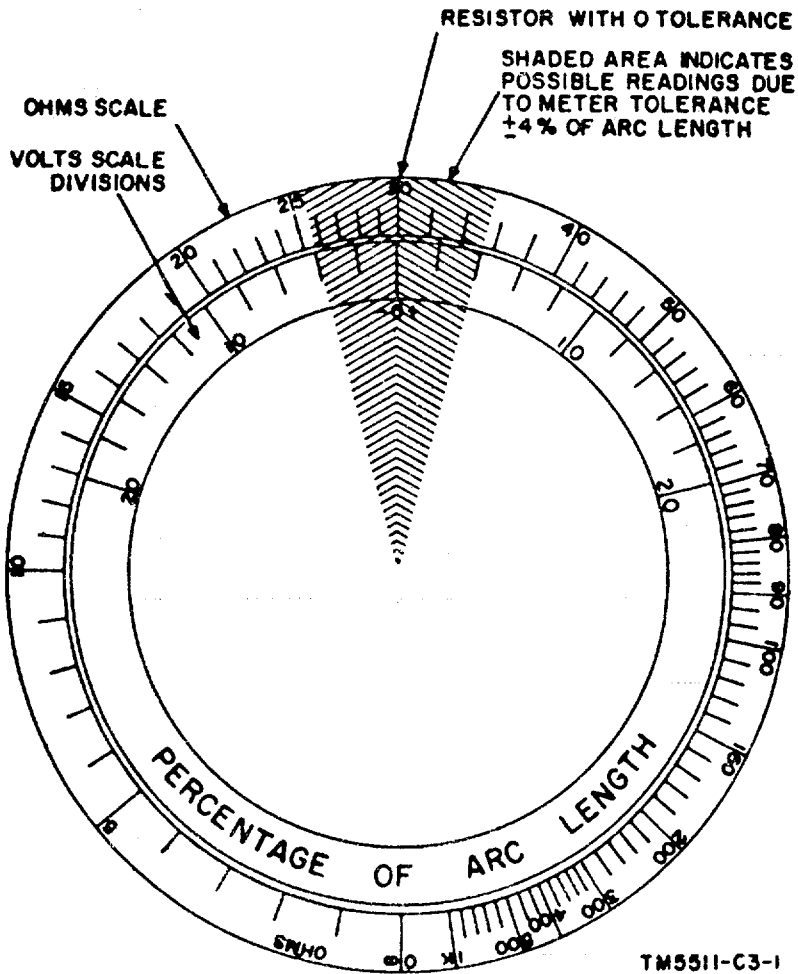
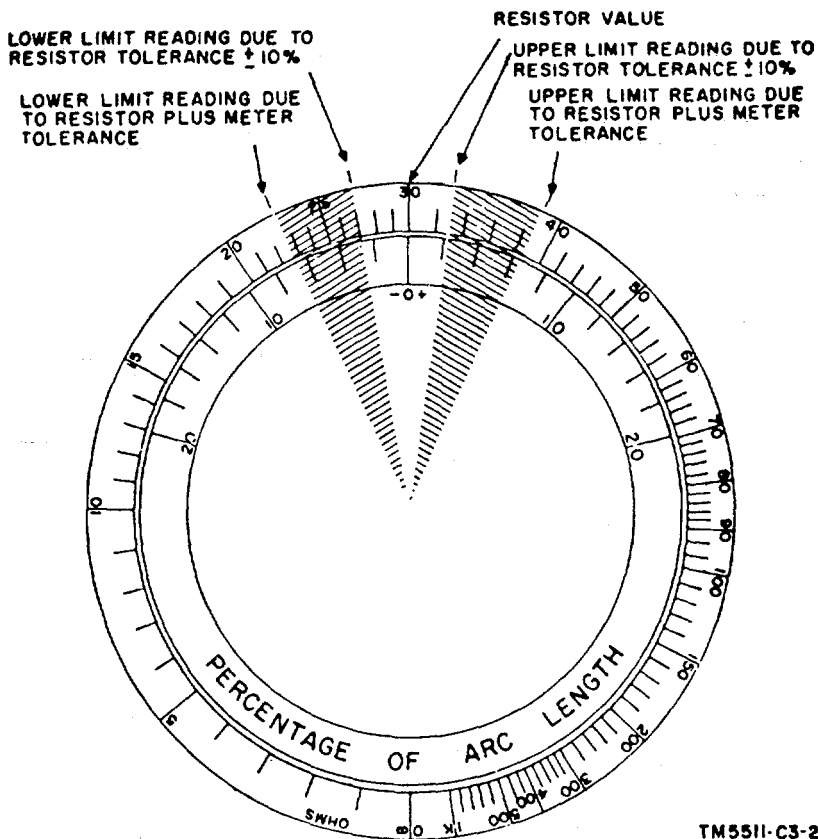

Figure 4.1. (Added) Computing device, indicating meter tolerance.
Figure 4.2. (Added) Computing device, indicating meter and resistance tolerance.
- (1) Misinterpretation of resistance readings obtained with Electronic Multimeter TS-505/U can result in unnecessary repairs to equipment, because resistors are mistakenly reported faulty.
- (2) The tolerance prescribed for the TS-505/U is ± 4 percent of arc length. The ± 4 percent of arc length does not result in a ± 4 percent resistance value reading. The possible indicated resistance of any resistor can be determined by using a computing device similar to that shown in figure 4.1. Figure 4.1 shows that a resistor rated at exactly 30 ohms could produce a reading on the TS-505/U between 25.5 and 35.5 ohms, with only 4 percent meter tolerance. If the resistor has a tolerance of ± 10 percent, the meter reading obtained will be between 22.7 and 38.1 ohms as shown in figure 4.2.
- c. These readings are 25.5 ohms and 35.5 ohms (fig. 4.1).
- d. This reading is 22.7 ohms (fig 4.2).
- f. This reading is 38.1 ohms (fig. 4.2).